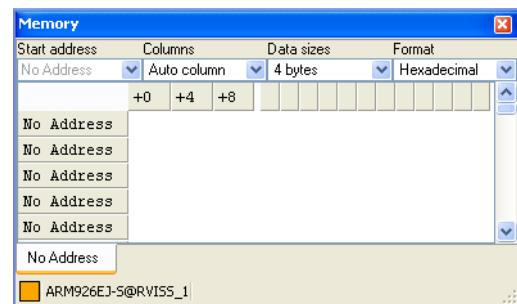

Figure 13-29 Memory view
3. Select **Memory** from the **View** menu to display the Memory view as a floating view. Figure 13-29 on page 13-40 shows an example. No memory locations are displayed when you first connect to a target.